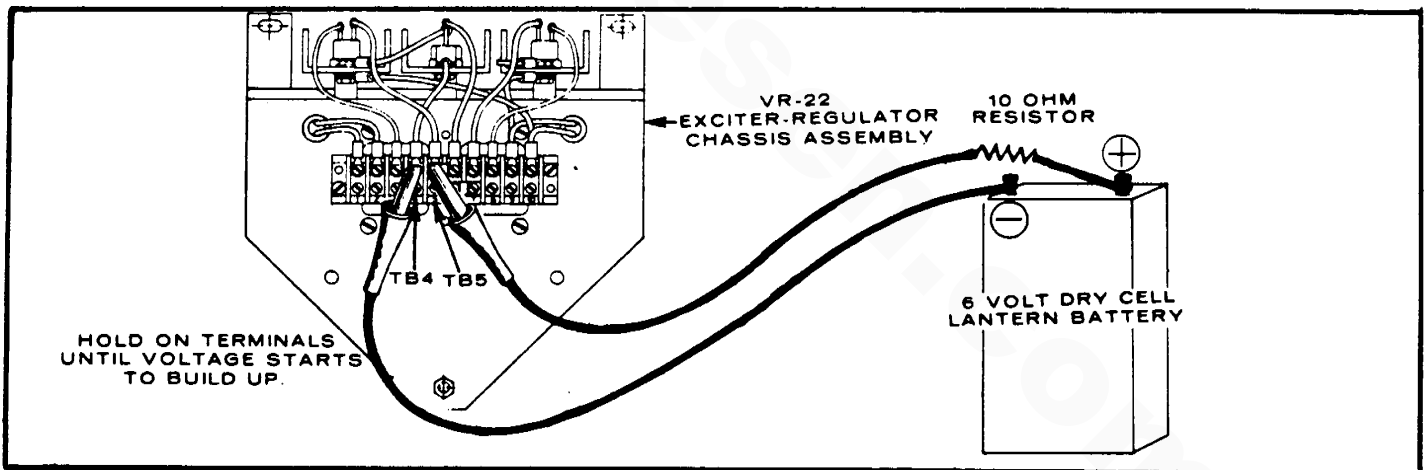

FIGURE 7. FLASHING THE FIELD
2. Use a six volt dry cell (lantern) battery with a ten ohm resistor as shown in Figure 7. If a lantern battery is not available, a 12 volt automotive battery can be used by increasing the 10-ohm resistor to 20-ohms; or a 24 volt automotive battery can be used by increasing the resistor to 40-ohms.